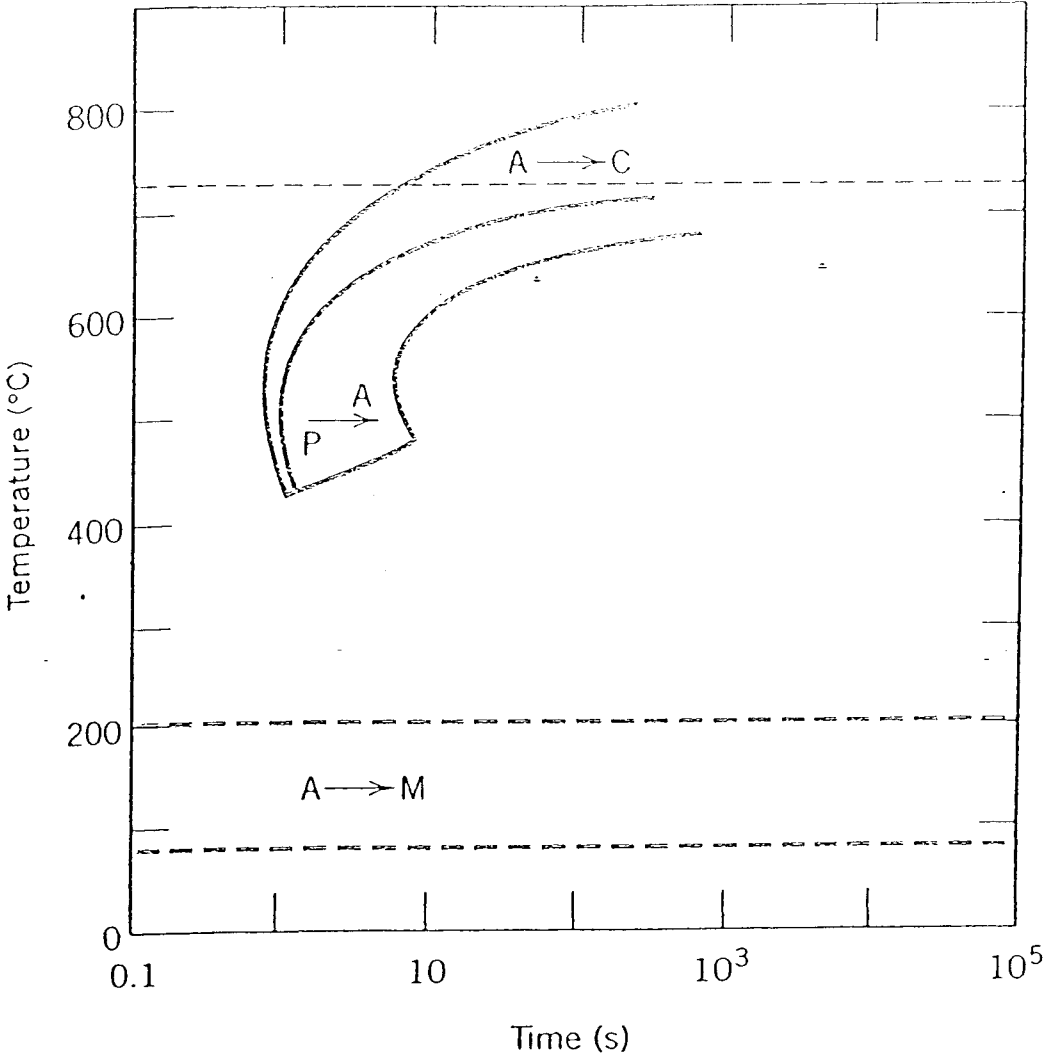

Figure 3
- [b] Figure 3 shows the continuous cooling transformation diagram for a 1.13 wt%C iron – carbon alloy. Sketch and label on this diagram the continuous cooling curves to yield the following microstructure:
(Detach Figure 3 and submit together with the answer script).